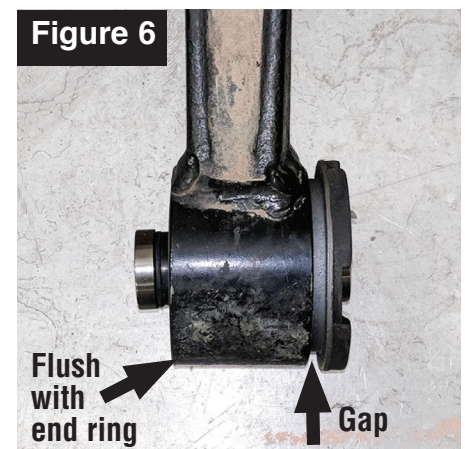

Figure 6
9. Stop pressing as soon as bushing outer shell is flush with inside of end ring. An intentional gap will remain between outside face of end ring and underside of flange in bushing casing. **See Figure 6.**